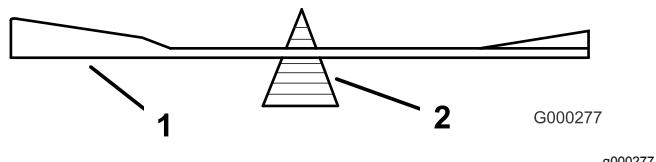
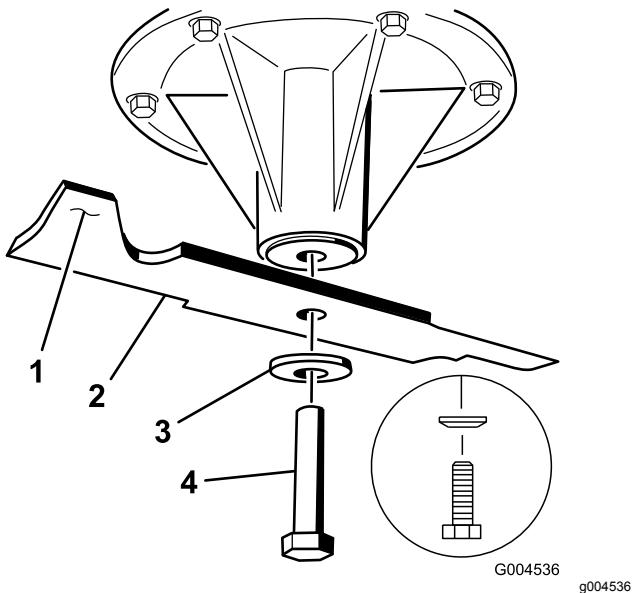

Figure 99
Figure 100
2. Check the balance of the blade by putting it on a blade balancer (Figure 99). If the blade stays in a horizontal position, the blade is balanced and can be used. If the blade is not balanced, file some metal off the end of the sail area only (Figure 100). Repeat this procedure until the blade is balanced.
1. Install the blade onto the spindle shaft (Figure 100).
2. Install the spring disk and the blade bolt. The spring disk cone must be installed toward the bolt head (Figure 100). Torque the blade bolt to 115 to 150 N·m (85 to 110 ft-lb).